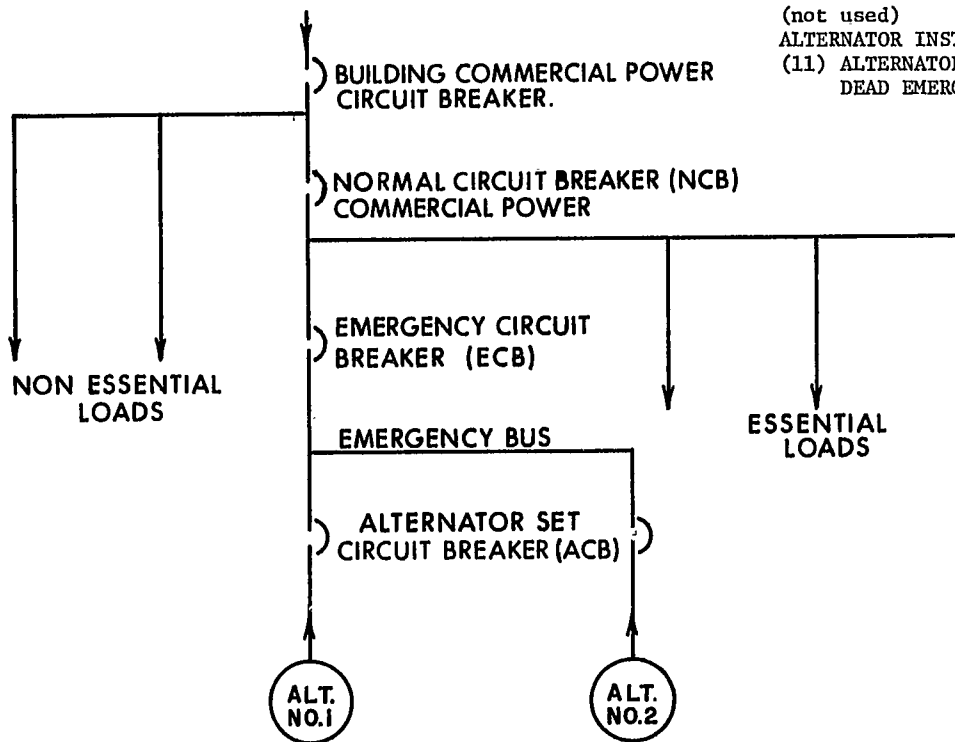

Figure 1
- 18.220 With alternator voltage available check phase sequence of the alternator voltage at the emergency bus with R-3404 Phase Sequence Indicator. See Figure 1. Refer to Section 135 in this handbook for method. 1-2-3 is required. Tag buses.
20.52 Reconnect breaker leads disconnected in Paragraph 14.08 and 14.09 as required for Automatic operation and test for proper operation and interlock. See SD-81489-01 listed in Paragraph 1.4 and refer to the job block schematic drawing. A typical circuit breaker arrangement is shown in Figure 1, however, a wide variety of arrangements are possible.